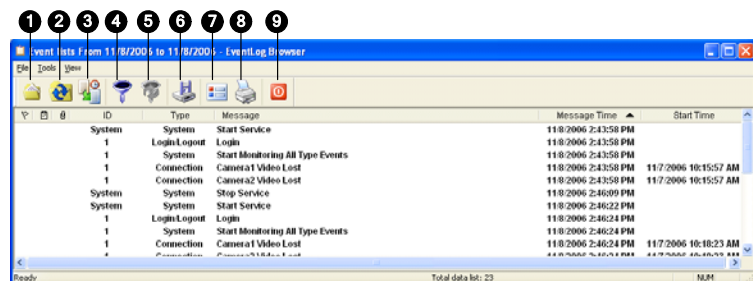

Figure 1-31
4. To print out the alarm reports along with the search results, click the **Page Setup** button (No.7, Figure 1-31), select **Print Managing Alarm Report** and click **OK**.
5. Click the **Print** button (No. 8, Figure 1-31). Find the alarm reports in the last part of the printouts.
Click the **Open** button (No. 1, Figure 1-31) to launch the following Open Database dialog box. Define a time period and select the type of database. If you want to open the logs created by the system, select **System Log**; if you want to open the logs you have backed up in a local drive or CD/DVD, select **Backup Log**. Then assign the log path. After clicking **OK**, the events matching the search criteria will be loaded to the Event Log Browser.
You can filter log events on the defined criteria. Click the **Filter** button (No. 4, Figure 1-31) to bring up the Filter window.
1. On the Event Log Browser, click the **Backup** button (No.6, Figure 1-31). This dialog box appears.
1. On the Event Log Browser, click the **Page Setup** button (No. 7, Figure 1-31) to display this dialog box.
4. Click the **Print** button (No.8, Figure 1-31) to start.